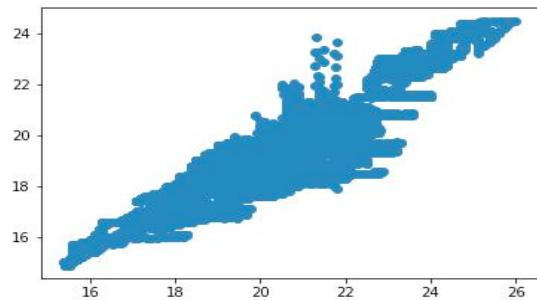

Fig 6
- From Fig6, we can see that there is a relation between these two attributes but also have some outliers